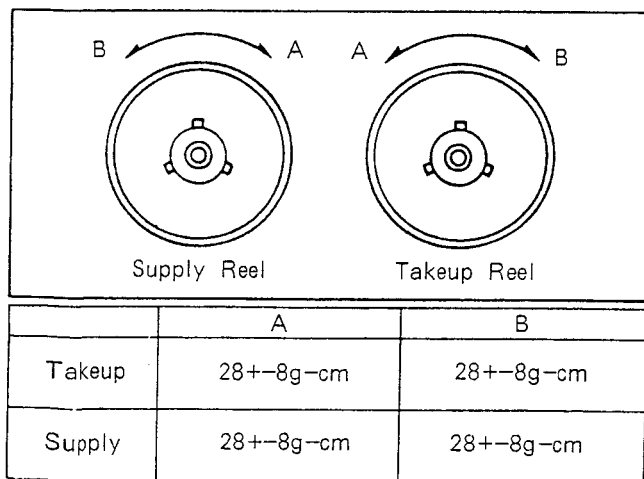

Fig. M19
* Specification:-----see spec table (Fig. M19).
- (1) Remove the cassette compartment by unscrewing 4 screws.
- (2) Attach the adaptor to the torque gauge and place the unit in STOP mode.
- (3) Place the torque on the reel table. The weight of gauge should not rest on the reel table.
- (4) Turn torque gauge in either direction indicated in the Fig. M19, and read the gauge when the brake begins slipping.